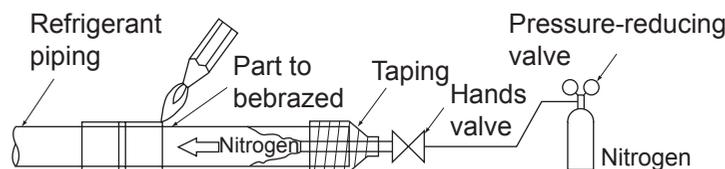

Fig. 17
- Nitrogen should be set to 0.02MPa with a pressure-reducing valve if brazing while inserting nitrogen into the piping. **(Refer to Fig. 17)**